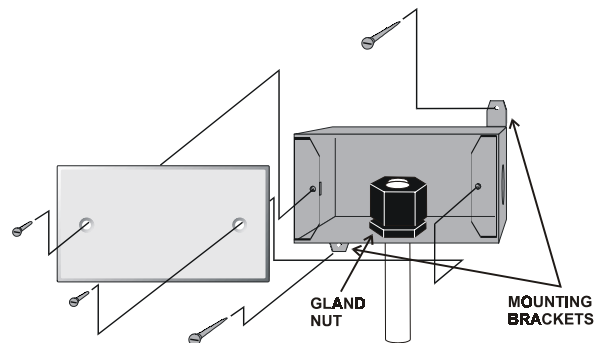

Figure 1 - Humidity Sensor - Exploded View
1. Secure the rear side of the enclosure to the outside wall using the two mounting brackets, as shown in *Figure 1*. The tube holding the sensor element should point straight down.
Once the outdoor humidity sensor is mounted and the sensor and board wiring is complete, check the gland nut that secures the sensor tube assembly (inside the enclosure, as shown in *Figure 1*) and tighten if necessary. Attach the cover plate (with the foam gasket included) to the sensor enclosure using the screws provided. Tighten all conduit connections, and cap all unused holes in the sensor enclosure using the caps provided in the sensor kit. This will protect the wiring from moisture and the elements.